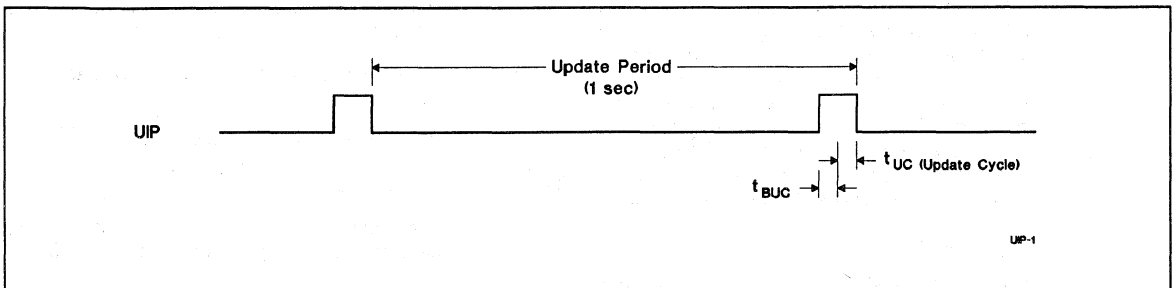

Figure 2. Update Period Timing and UIP
at the end of each update period (see Figure 2). The alarm flag bit may also be set during the update cycle.
The update-in-progress bit (UIP) in register A is set  $t_{BUC}$  time before the beginning of an update cycle (see Figure 2). This bit is cleared and the update-complete flag (UF) is set at the end of the update cycle.